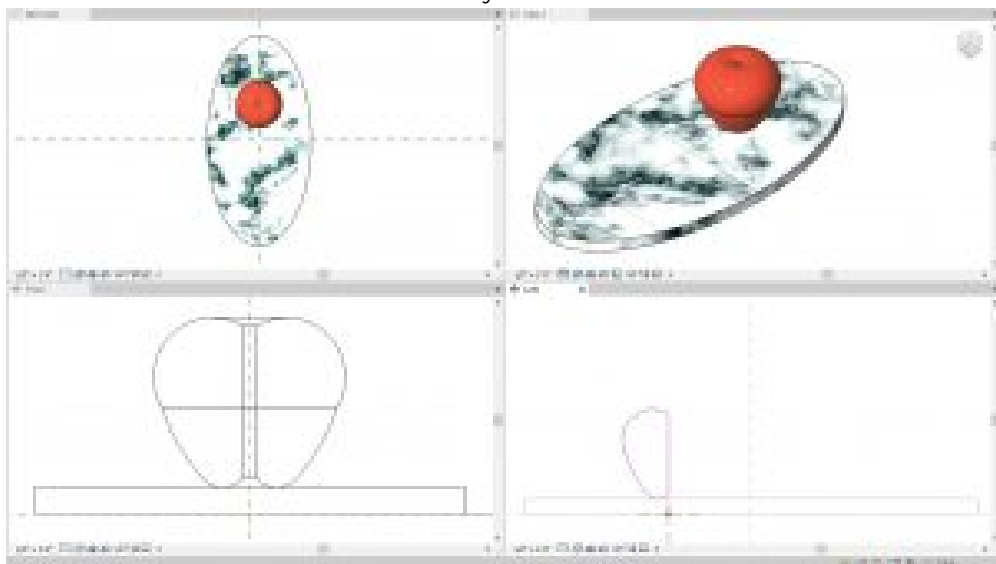

Figure 5.16 Sweep extrusion – apple
4. Follow Figure 5.16 to create an apple on top of the marble Plate